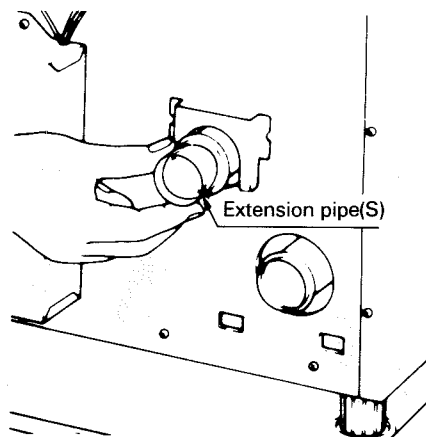

Fig. 11
7. In case the circuit board cover gets in the way of the connection of the standard flue pipe, use the extension pipe (S) for the exhaust outlet mouth of the heater (See Fig. 11).